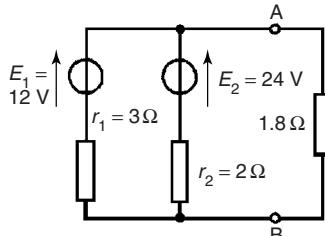
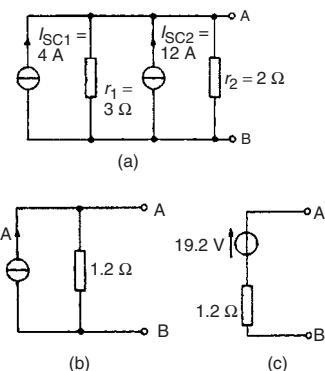

Figure 13.71
Figure 13.72
Problem 20. (a) Convert the circuit to the left of terminals AB in Fig. 13.71 to an equivalent Thévenin circuit by initially converting to a Norton equivalent circuit. (b) Determine the current flowing in the $1.8\ \Omega$ resistor.
- (a) For the branch containing the 12 V source, converting to a Norton equivalent circuit gives $I_{SC1} = 12/3 = 4\text{ A}$ and $r_1 = 3\ \Omega$. For the branch containing the 24 V source, converting to a Norton equivalent circuit gives $I_{SC2} = 24/2 = 12\text{ A}$ and $r_2 = 2\ \Omega$. Thus Fig. 13.72(a) shows a network equivalent to Fig. 13.71
From Fig. 13.72(a) the total short-circuit current is $4 + 12 = 16\text{ A}$ and the total resistance is given by $(3 \times 2)/(3 + 2) = 1.2\ \Omega$. Thus Fig. 13.72(a) simplifies to Fig. 13.72(b). The open-circuit voltage across AB of Fig. 13.72(b), $E = (16)(1.2) = 19.2\text{ V}$, and the resistance 'looking-in' at AB is $1.2\ \Omega$. Hence the Thévenin equivalent circuit is as shown in Fig. 13.72(c).
- (b) When the $1.8\ \Omega$ resistor is connected between terminals A and B of Fig. 13.72(c) the current